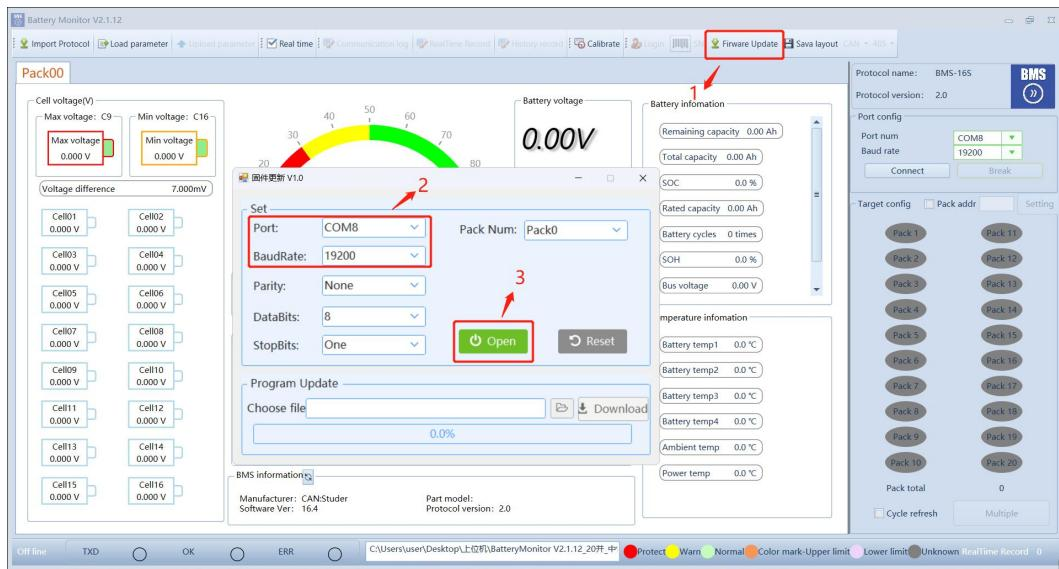

Figure 9-1
- The upper monitor is disconnected, click "firmware update", select the corresponding port number, and the port rate to select 19200, and click "Open",Figure 9-1